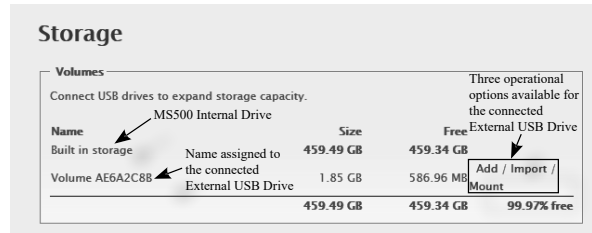
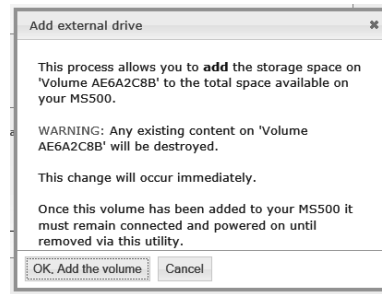
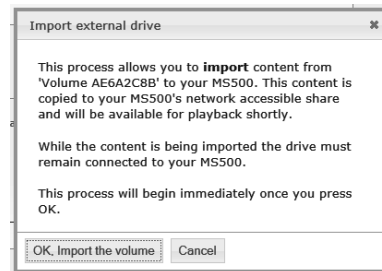
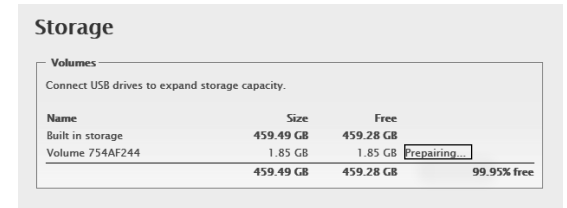

Figure 37
Figure 38
Figure 39
Figure 41
top), then scroll down to “Storage”. Referring to figure 37, the three options for the external USB Connected Drive appears next to the “Free” Space Listing. The option choices include “ADD, IMPORT or MOUNT”. When any one three choices are selected, a new window will appear explaining the functioning, any possible limitations and “OK” to activate the chosen choice. Refer to figures 38, 39 and 40
1. Start the ADD process by clicking on the button “OK, Add the volume”. Refer to figure 38 and then figure 41.
1. Start the Import process by clicking on the button “OK, Import the volume” (Figure 39). During the “Import” functioning, various messages will appear in the window indication the “Importing status”. Refer to figure 41, 42 and 43.